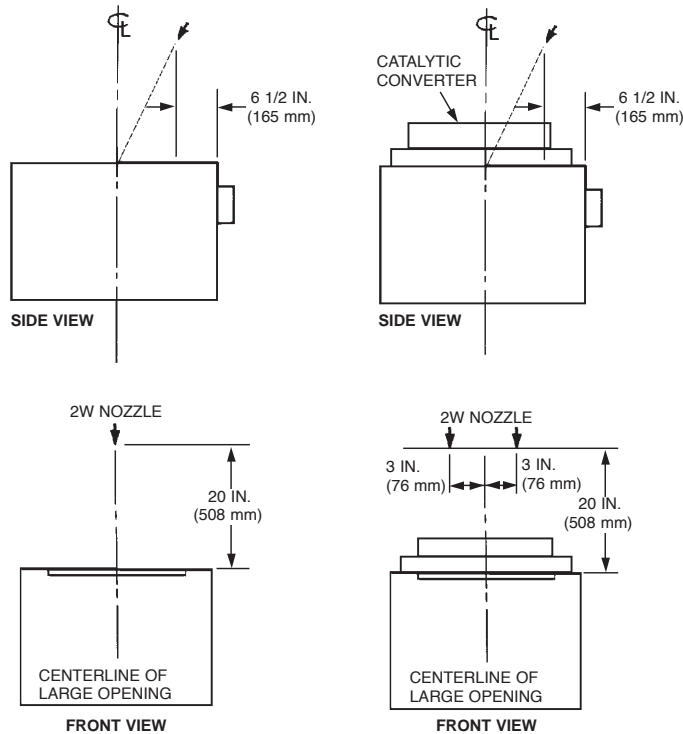

FIGURE 4-89a
- **Nozzle Height:** 20 in. (508 mm) above top of appliance. See Figure 4-89a.
- **Nozzle Location:** 6 1/2 in. (165 mm) back from front edge of appliance. See Figure 4-89a.
- **Nozzle Aiming Point:** Aimed at center of opening. See Figure 4-89a.